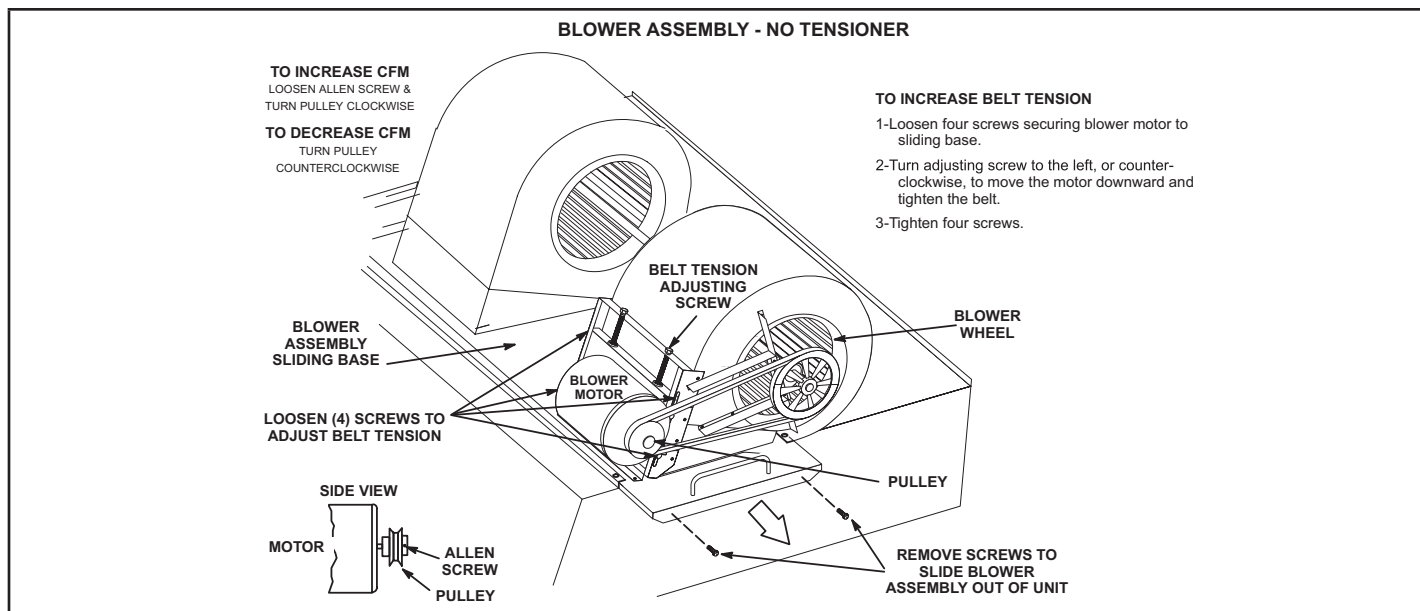

FIGURE 17
- 2 - Remove screws on either side of blower assembly sliding base. See FIGURE 17.
- 4 - The blower RPM can be adjusted at the motor pulley. Loosen Allen screw and turn adjustable pulley clockwise to increase CFM. Turn counterclockwise to decrease CFM. See FIGURE 17. Do not exceed minimum and maximum number of pulley turns as shown in TABLE 8.
- 1 - Loosen four screws securing blower motor to sliding base. See FIGURE 17.